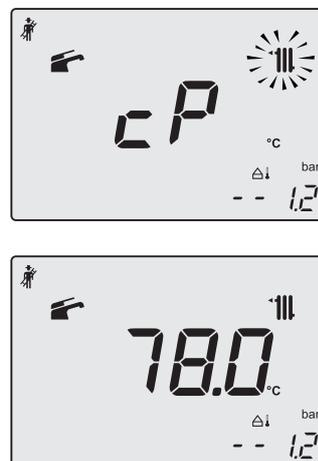

Figure 11.8
- 19 Press key G to vary the output in chimney sweep mode: when the display shows the letters **cP** that alternate with the heating water temperature value (e.g. 78), the "chimney sweep function" is at maximum output in heating mode (Figure 11.8);